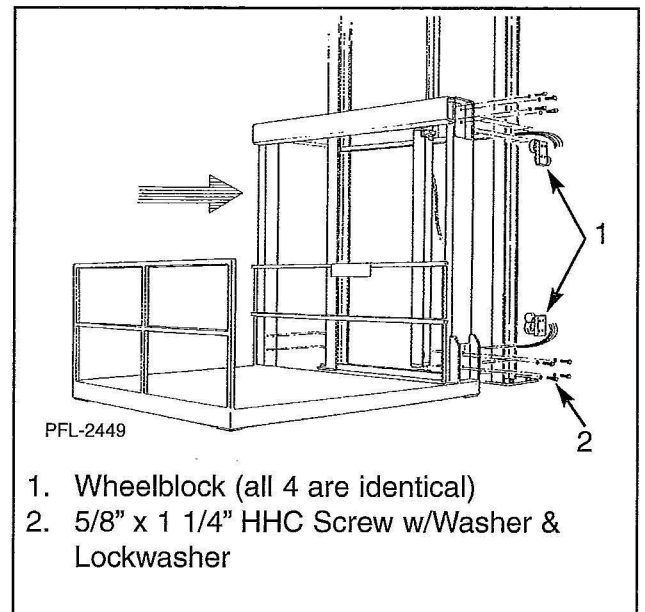

Figure 15
2. Slide the column weldment with wheelblocks up to the carriage. Temporarily brace the column weldment while mounting the wheelblocks to the carriage. See Figure 15.
3. Mount the wheelblocks to the carriage upright using 5/8" x 1 1/4" HHC screws with washers and lockwashers. See Figure 15.